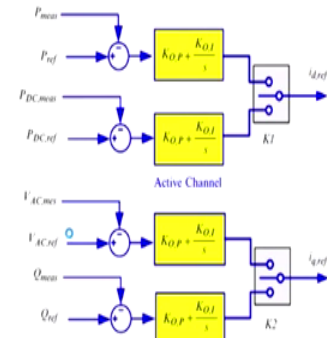

Fig.5 Structure of VSC outer controllers
- The outer controllers include active and reactive power loops, as it is shown in Fig.5.